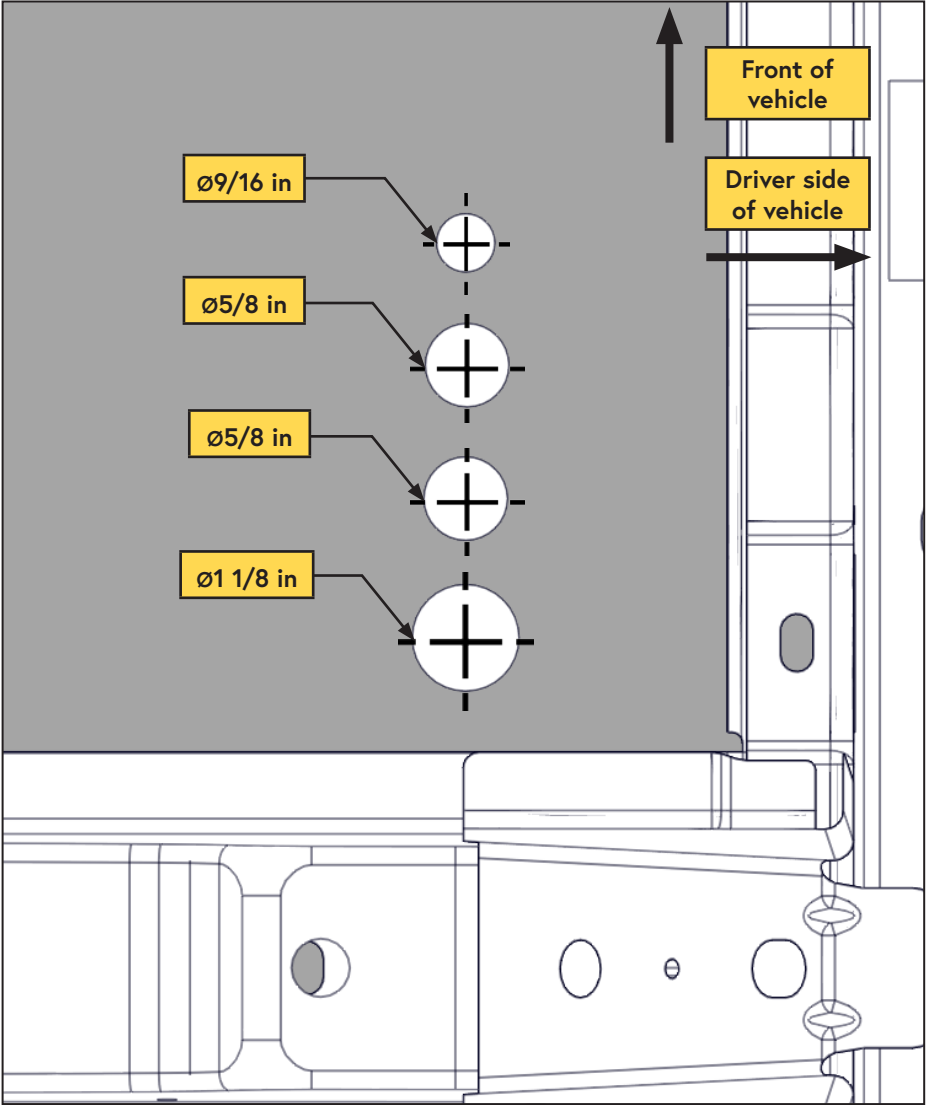
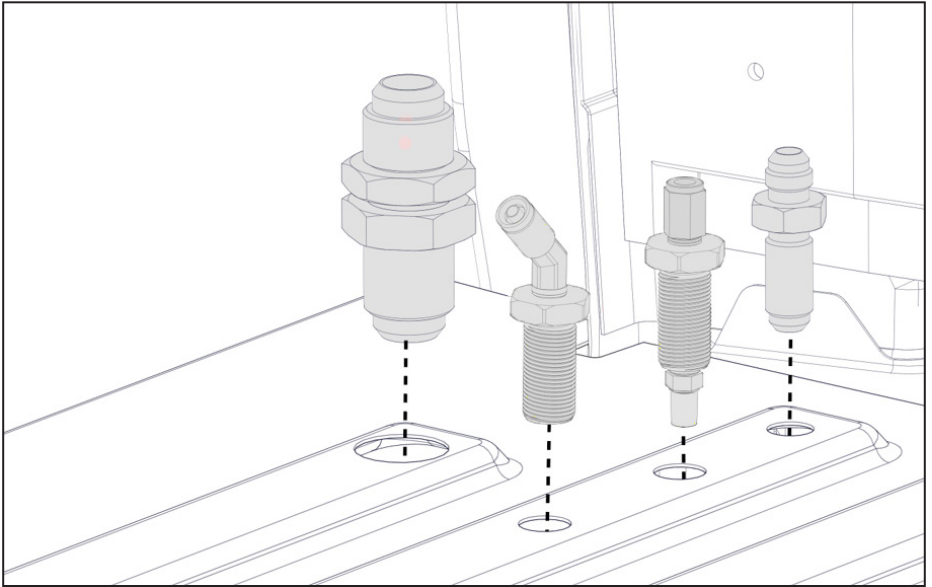
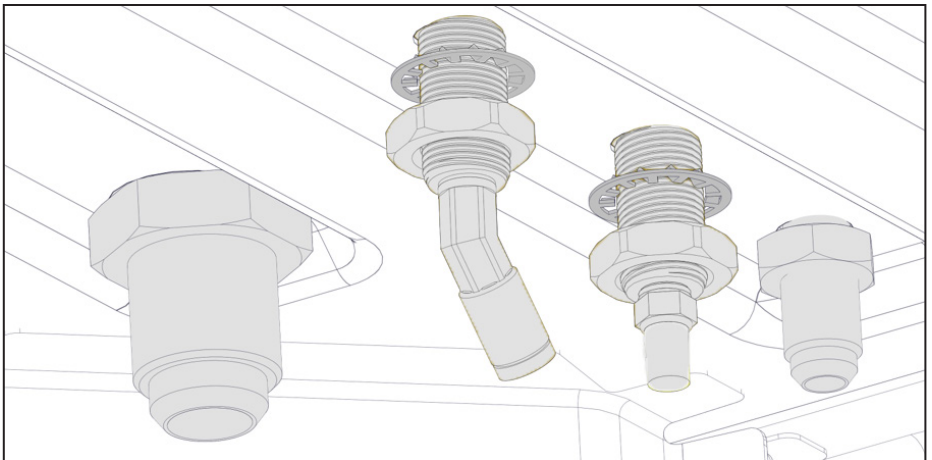

Figure 34 — Vehicle Chassis bottom view
Figure 35 — Interior View
Figure 36 — Exterior View
- Drill the bulkhead fitting holes using a drill, step drill or hole saw. Leave enough room between the fittings to allow access for a wrench (Figure 34, Figure 35, Figure 36).
- Fit the bulkhead fittings through the top of the hole and secure from the bottom with the supplied nuts. Apply Loctite 567 (thread sealant) when installing the 1/4 in push-to-connect fittings in the bulkhead fittings (Figure 35, Figure 36).
- Connect the 90° fitting on the 3/4 in x 40 in hose to the #12 JIC fitting (air/oil inlet) on the cooler above the fan (Figure 34).
- Connect the 90° fitting on the 3/8 in x 40 in hose to the #6 JIC fitting (oil return fitting) beneath the oil filter on the tank (Figure 34).